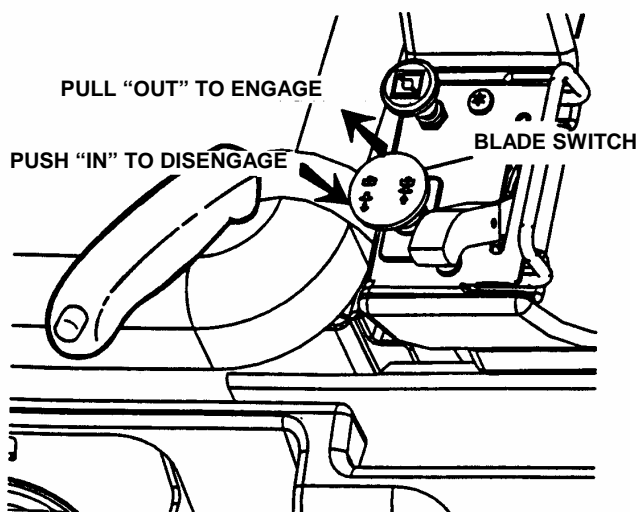

FIGURE 2.2
2.1.4. Check Blade switch to insure it works freely. Switch is pulled "OUT" into the "ON" position for blade engagement or pushed back "IN" into the "OFF" position for blade disengagement. See Figure 2.2. **IMPORTANT:** Disengagement stops the blades rotation.